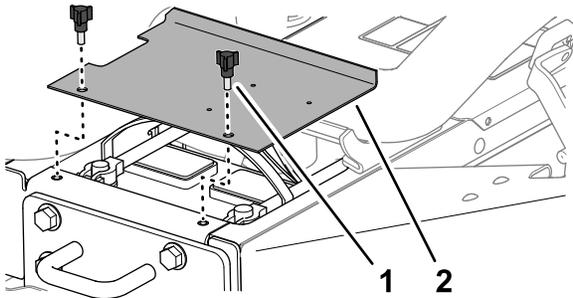

Figure 53
1. Release the latches at the left side and right side of the hood (Figure 53).